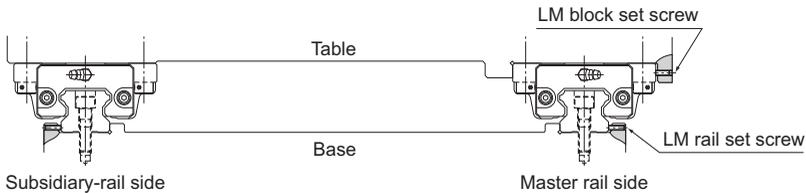

Fig.1 When an Impact Load is Applied to the Machine
- (1) Gently place the table on the LM blocks and temporarily fasten the mounting bolts.
- (2) Press the master side LM blocks to the side reference surface of the table using set screws and position the table. (See Fig.1 on **A1-322**.)
- (3) Fully fasten the mounting bolts on the master side and the subsidiary side to complete the installation.